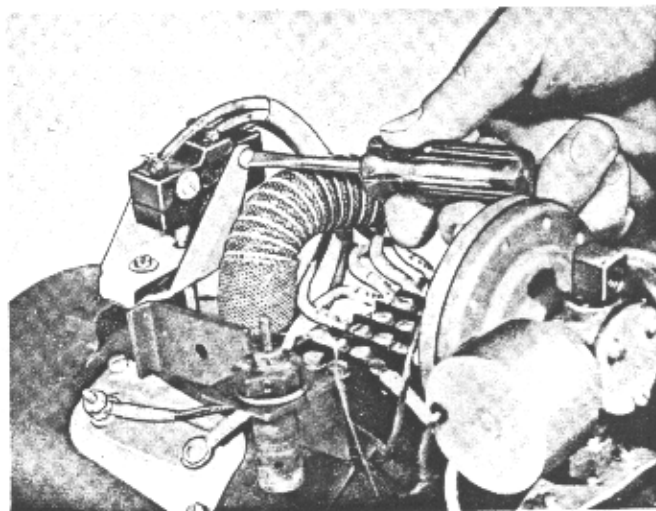

Figure 50
- a. Loosen two switch mounting screws (Figure 50).
b. If the quartz rod is not broken, loosen two switch mounting screws (Figure 50).